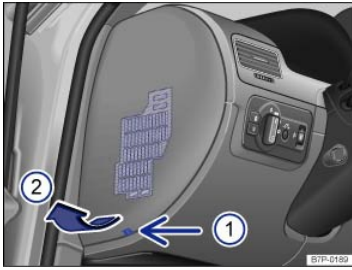
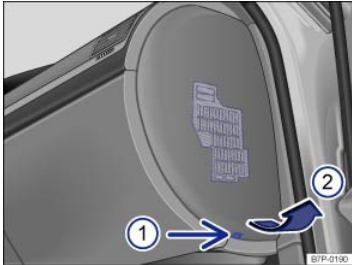

Fig. 218 On the left side of the instrument panel: Remove the fuse box cover.
Fig. 219 On the right side of the instrument panel: Remove the fuse box cover.
- Insert a flat object, such as the screwdriver in the vehicle tool kit, into the opening ⇒ Fig. 218① or ⇒ Fig. 219① and carefully pry off the cover in the direction of the arrow ②.